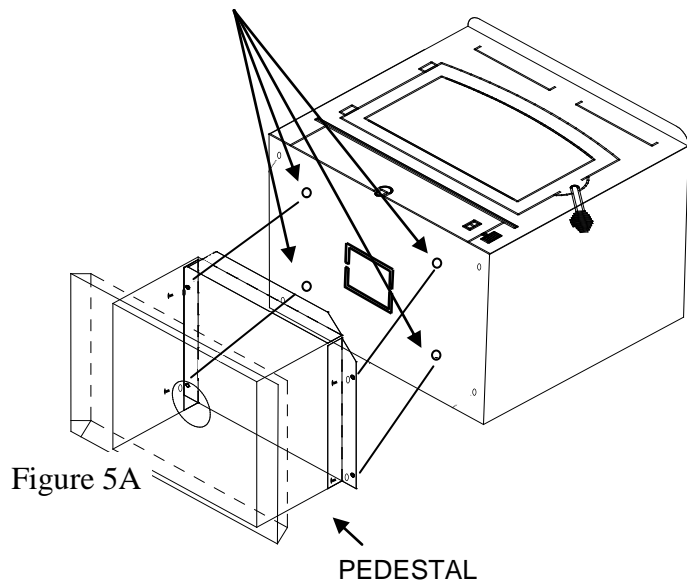

Figure 5A
6. **(Pedestal Kit):** If pedestal kit is being used an outside air is required for residential free standing installation (page 25 Out Side Air Installation). Open freestanding kit and obtain stand. Place stand against bottom of heater (angle side to heater). Center stand front to rear and also center stand left and right. Mark screw locations on bottom of stove through outer holes of stand mounting angles. Set stand aside and drill four 7/32" holes in heater bottom. Then mount stand to bottom of heater with screws provided. (See Figure 5A).
7. Obtain four (4) 3/16" self-tapping screws and secure stand to heater.